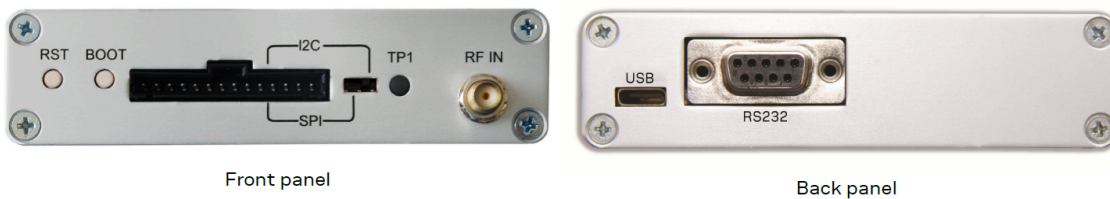

Figure 2: EVK-M91 front and back panels
- SPI / I2C: Connect corresponding pins. Set interface switch accordingly to SPI or I2C. Refer to Figure 2 to see these interface positions.
Figure 2 shows the front and the back panel of the EVK-M91 evaluation unit.
An SMA female connector is available on the front side (see Figure 2) of the evaluation unit for connecting an active or a passive antenna. The RF path on EVK-M91 contains an LNA and a SAW filter having 3.0 V DC voltage in the RF input. The recommended maximum antenna supply current for active antennas is 40 mA and is limited by the internal antenna short circuit detection feature. Please refer to [3] for more details. In addition to internal short circuit antenna detection feature, a hardware short circuit protection limits the maximum current to 100 mA. This pin is also ESD protected.